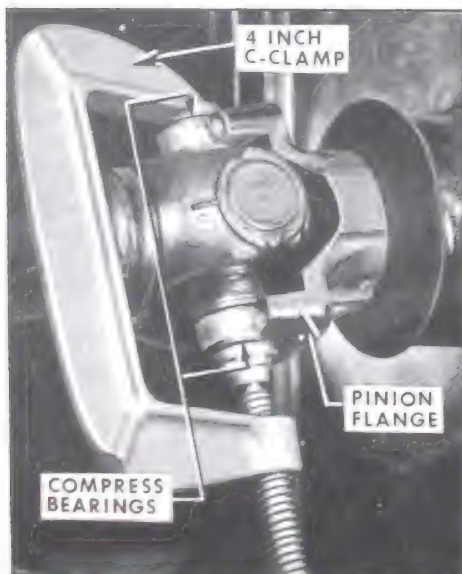

Figure 6-70—Using C-Clamp to Install a Universal Joint
5. Compress two loose bearings of rear universal joint toward each other using a 4 inch C-clamp. See Figure 6-70. This allows the bearings to seat in the pinion flange without the snap rings gouging the locating surfaces of the pinion flange while entering.